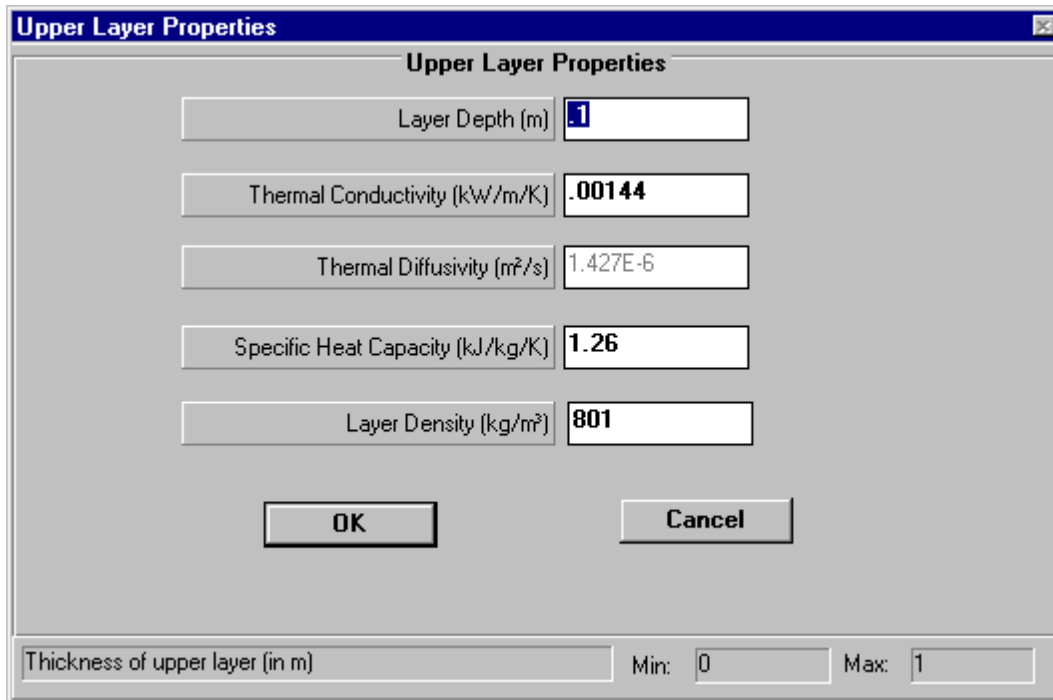

Figure 12 The Upper Layer Properties dialog box
A two layer substrate is a solid substrate made up of two impermeable layers, which transfers heat into the spill by conduction. Typically the upper layer is insulating relative to the base layer. The temperature of the ground before the spill [Ground Temperature (K)] must be specified: this is also the temperature of the ground far from the surface at all times during the spill. The thermal properties of both layers of the substrate must be entered. The thermal properties [Thermal Conductivity (kW/m/K), Thermal Diffusivity (m^2/s), Specific Heat Capacity (kJ/kg/K) and Density (kg/m^3)] of the lower layer, i.e. the main bulk of the substrate, are set on the main Substrate folder itself. These four parameters are coupled – see section 4.3.1. The properties of the upper layer can be set or viewed by clicking the Change Upper Layer button. This displays the Upper Layer Properties dialogue box (see Figure 12):